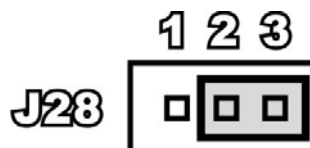

Figure 6 – Position of the Jumper on J28
6. Connect the jumper on **J28** to **position 2 and 3** as shown in Figure 6.